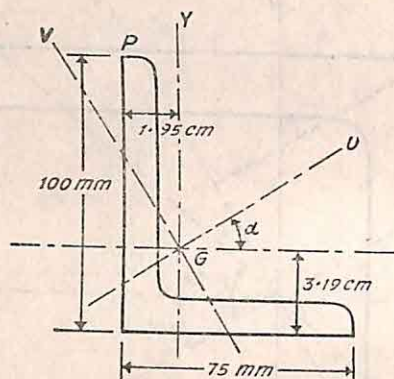

Fig. 63
9. Fig. 63 shows the section of an unequal angle iron. It is subjected to a bending moment  $M$ , the plane of which has  $GY$  as trace. Calculate the longitudinal stress at the point  $P$ . The principal axes are  $GU$  and  $GV$ ; the moment of inertia about  $GV$  is  $41.2 \text{ cm}^4$ ; that about  $GU$  is  $196.1 \text{ cm}^4$  and  $\tan \alpha = 0.55$ .